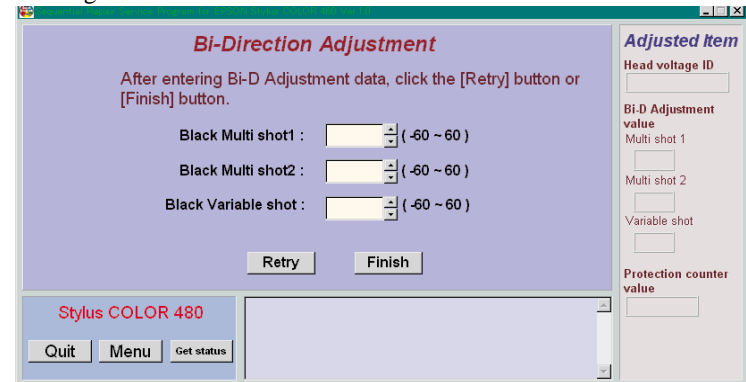

Figure 5-17. Input the suitable pattern number
- Repeated Step 7) to Step 10) to adjust the Bi-directional print alignment completely. If you exit this Bi-directional print alignment program, click the "Finish" button on the above Figure 5-17 or Click the "Menu" button.